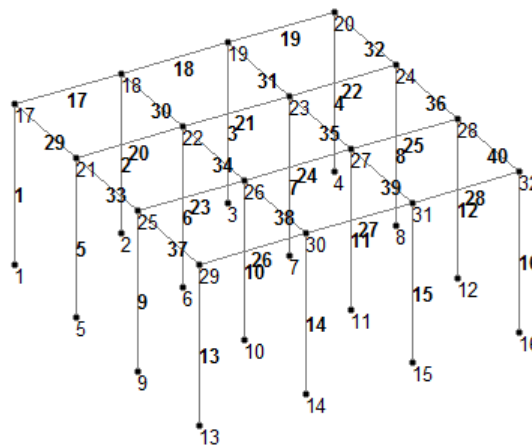

Figure 2-14 The complete structure after creating members
Step 8: Next, specify the command to create the remaining members as given below and the structure is completed, as shown in Figure 2-14.